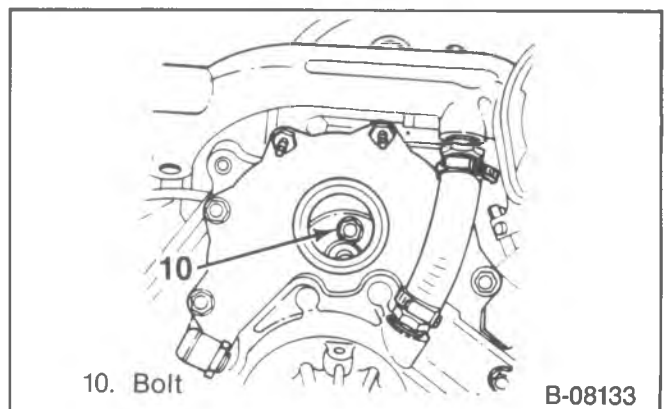

Figure 10—Pump Drive Gear Bolts
— Access is gained through the oil filler neck hole (figure 10).
14. The drive gear to injection pump bolts (10) (figure 10).